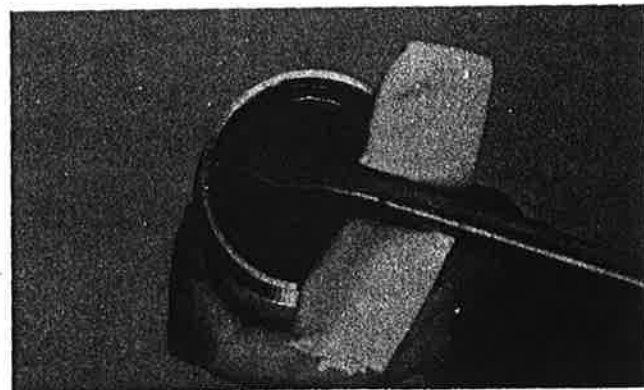

Fig. 5-6-7
6. To replace fork seal, remove wire clip, felt ring and cover washer from outer tube. (Fig. 5-6-7)
7. Carefully pry out old seal without damaging fork tube. (Fig. 5-6-7)